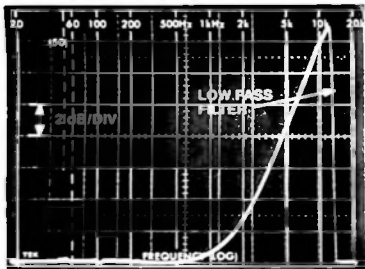

Fig. 18. Pre-emphasis Response from Composite Output on Modulation Monitor
3. Switch the monitor to the composite output and sweep the transmitter. The pre-emphasis curve of the transmitter will be displayed as in figure 18.
15 kHz should be noted due to the 17 kHz lowpass filters (figure 18).